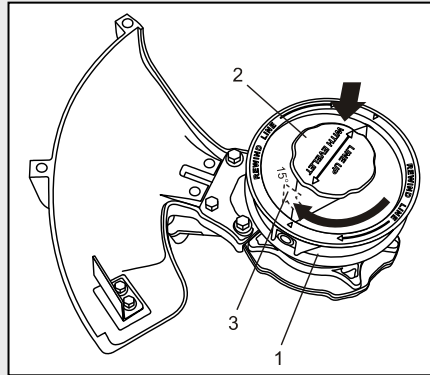

Fig. 6
2. Grasp the bump head housing (1) with one hand (Fig. 6).
3. Grasp the spool knob (2) with the other hand and press the spool **firmly** into the spring loaded bump head housing.
4. While pressing the spool firmly into the spring loaded bump head housing, rotate the spool knob clockwise (3) until it will not turn any further.